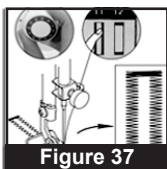

Figure 37
6. Select #11 on the pattern stitch knob. Turn switch ON. Sew several stitches in the opposite direction of Step 3, till you meet the original stitches of Step 2. Turn switch OFF. (Figure 37)